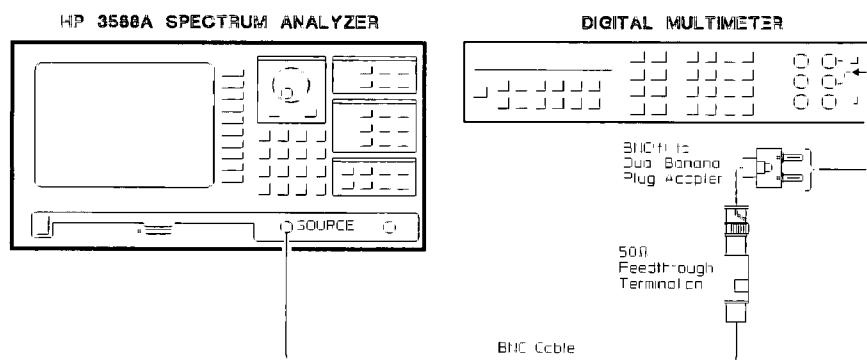

Figure 3-6. Source Responses Setup for Low Frequencies
1. Connect the test equipment as shown in figure 3-6.